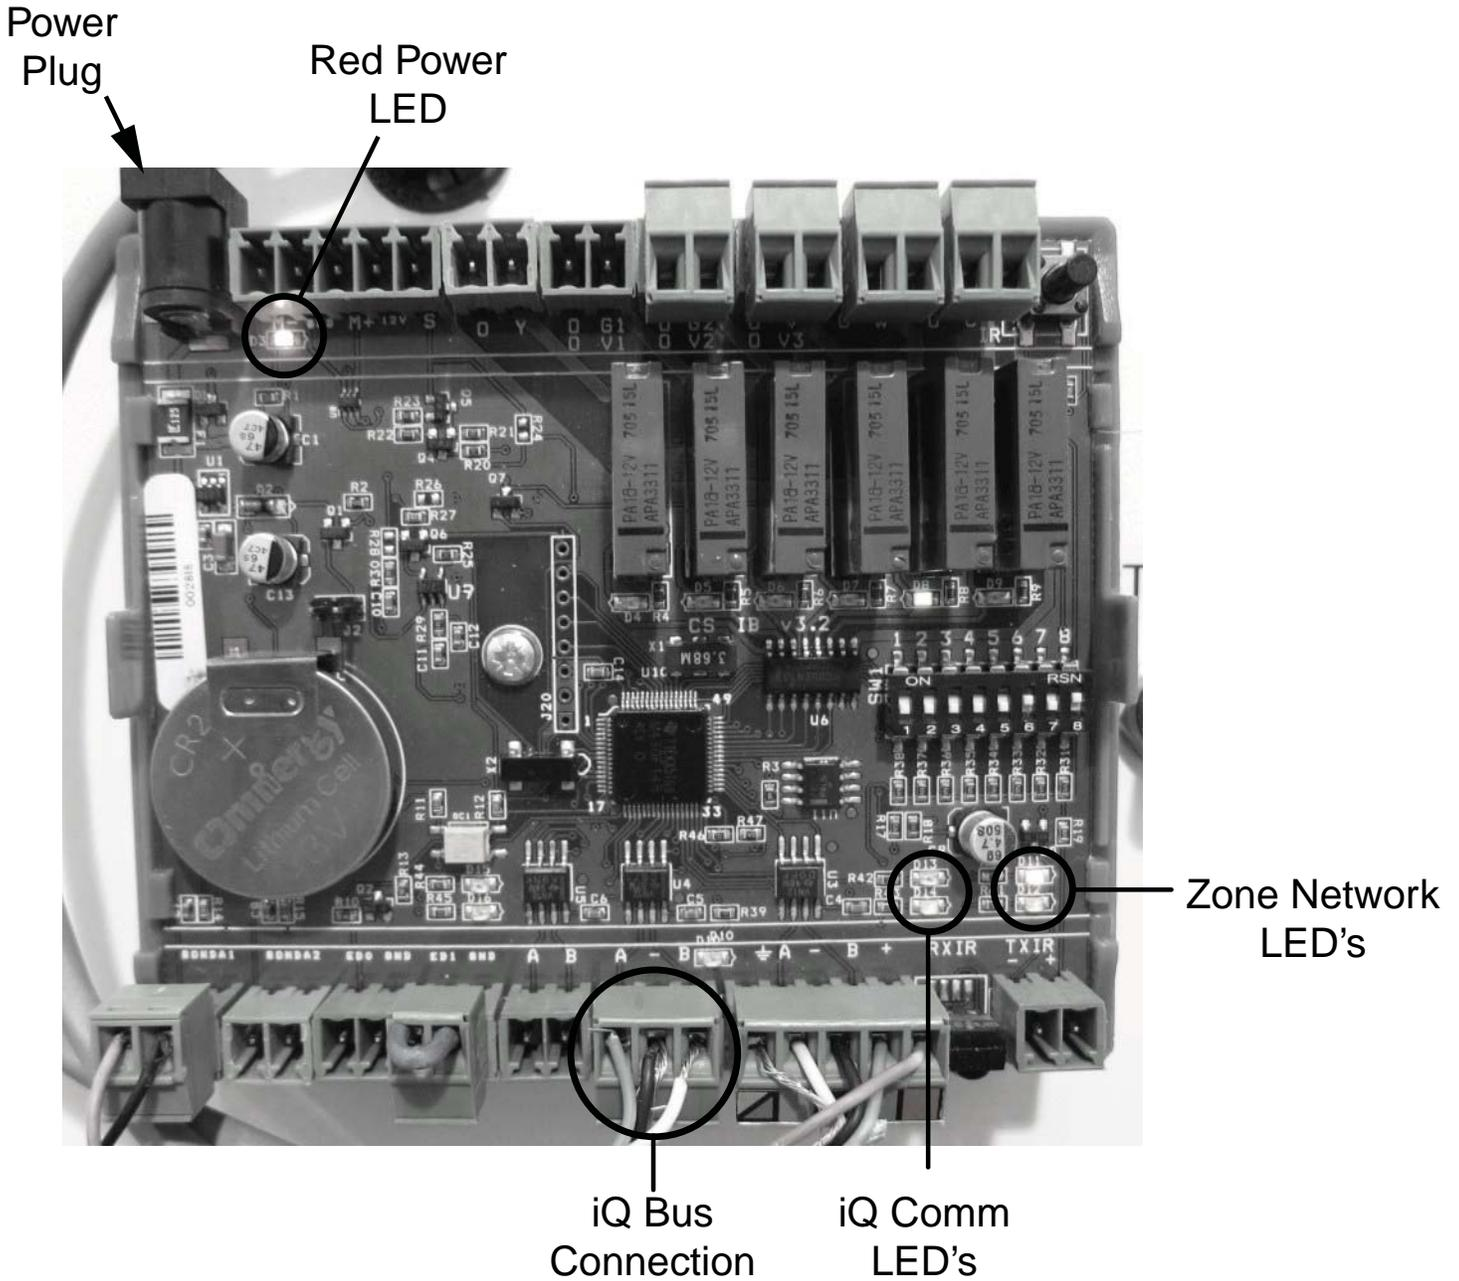

Figure 15. iQ Control Board LED locations
**Normal** – One red power LED should be on steady near where the dc power plugs into the board (upper left corner). Red and green LEDs at the lower right side of the board (just below the DIP switch block) flash quickly and continuously (indicating zone network activity). A second set of red and green LEDs (about 1” to the left of the other green and red LED pair) also flash, with the red LED flashing every 3 to 5 seconds, indicating iQ bus communication. See Figure 15.